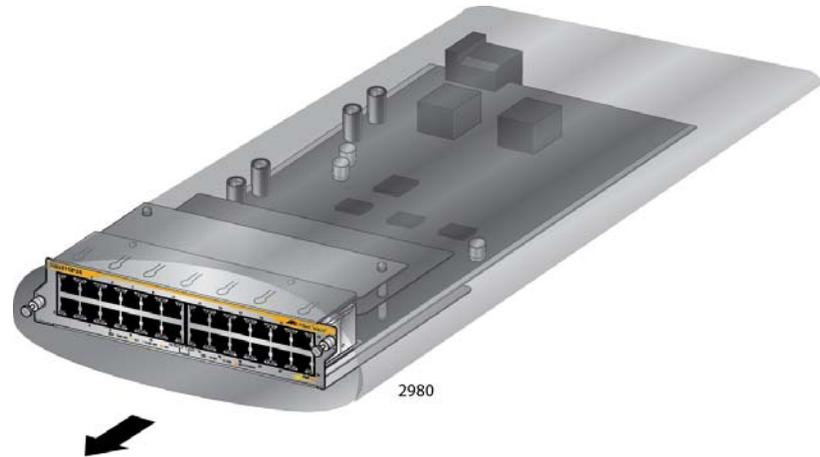

Figure 74. Removing an Ethernet Line Card from the Anti-static Bag
3. Carefully remove the Ethernet line card from the anti-static bag. Refer to Figure 74 on page 119.